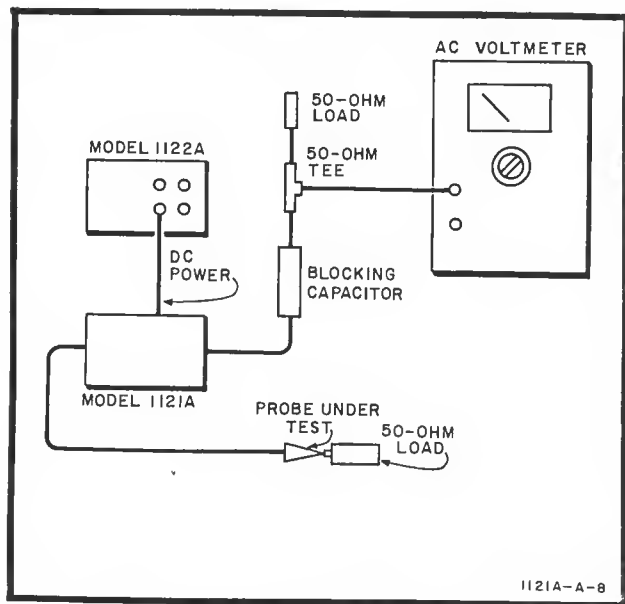

Figure 11. Noise Test Setup
- Connect equipment as shown in Figure 11.